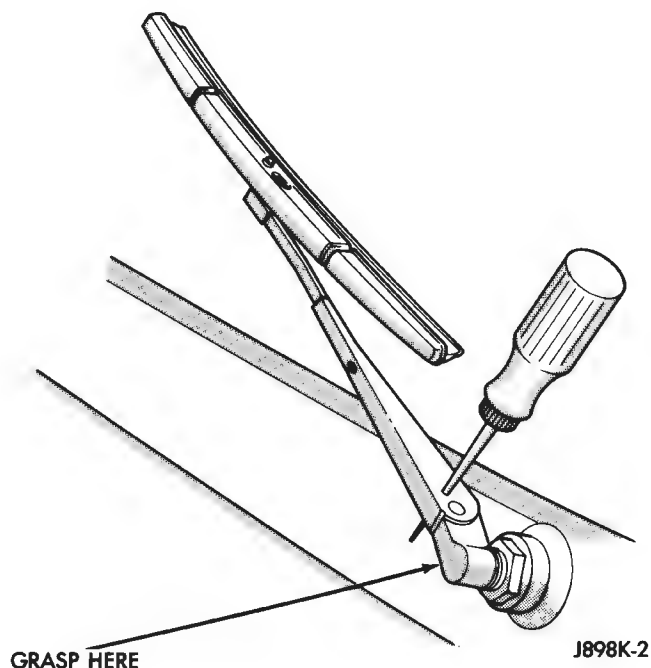
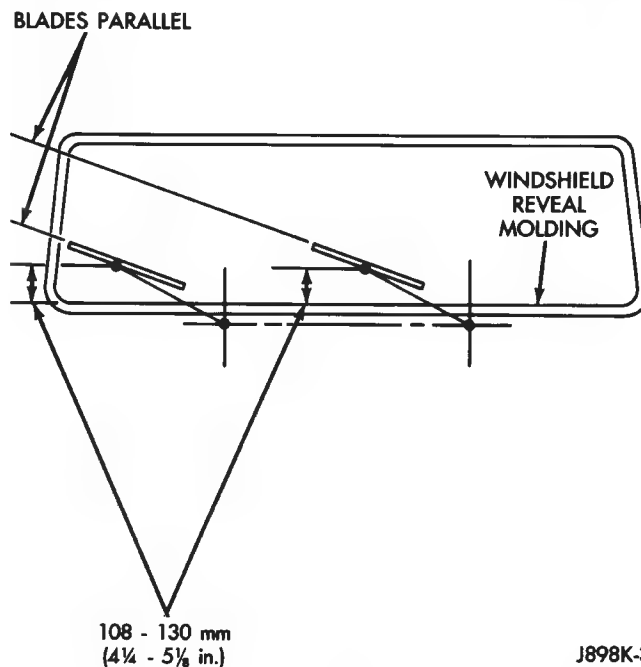

Fig. 4 Windshield Wiper Arm Remove/Install
Fig. 5 Windshield Wiper Arm Indexing
- (1) Pull the wiper arm forward.
- (2) Insert an ice pick type tool into the hole (Fig. 4).
- (3) Grasp the wiper arm above the pivot nut.
- (4) Pull and remove the wiper arm assembly.
- (5) To install, push the wiper arm over the pivot shaft. Be sure the pivot shaft is in the park position and the wiper arm is positioned correctly on the windshield (Fig. 5).